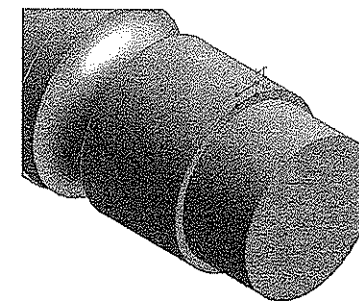

Figure 5-65 The sketch drawn on the new plane
5. Draw a sketch for the extruded feature on the new plane, as shown in Figure 5-65.